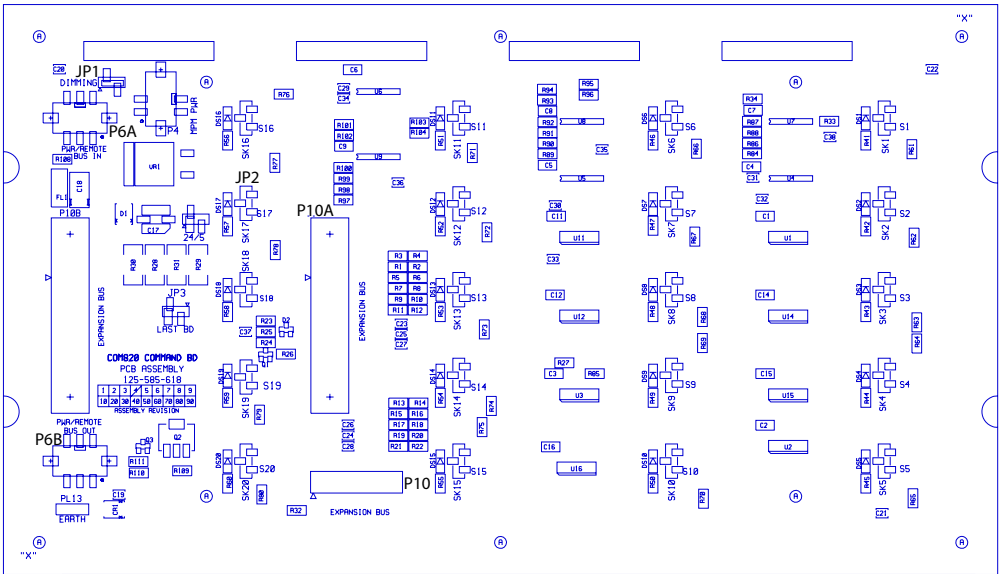

Fig. 1: COM820 20-Way Status/Command module
- Connect the wiring from P6A or P6B (as shown in Figure 1) to the P2 connector of the MPM800 board.
- Fit the PL8 connector of the MPM800 board onto the P10A connector (as shown in Figure 1).